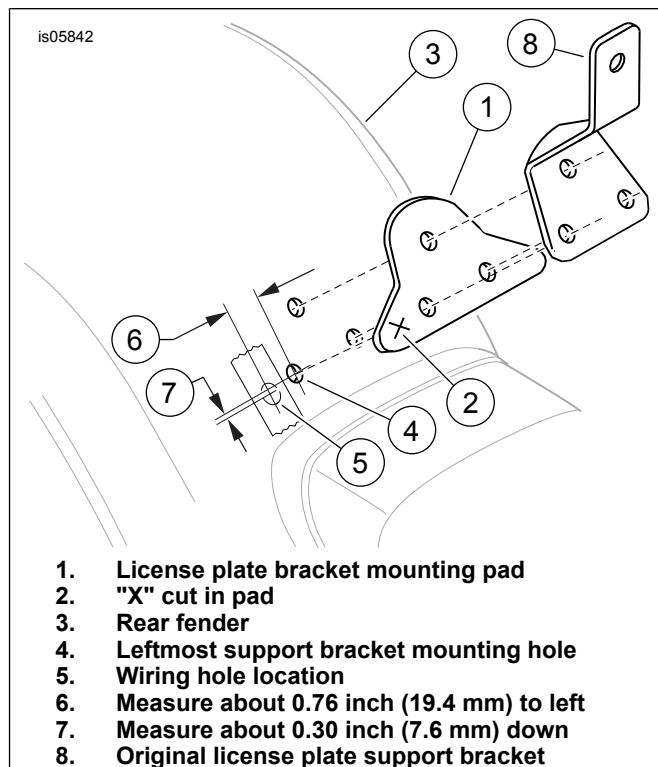
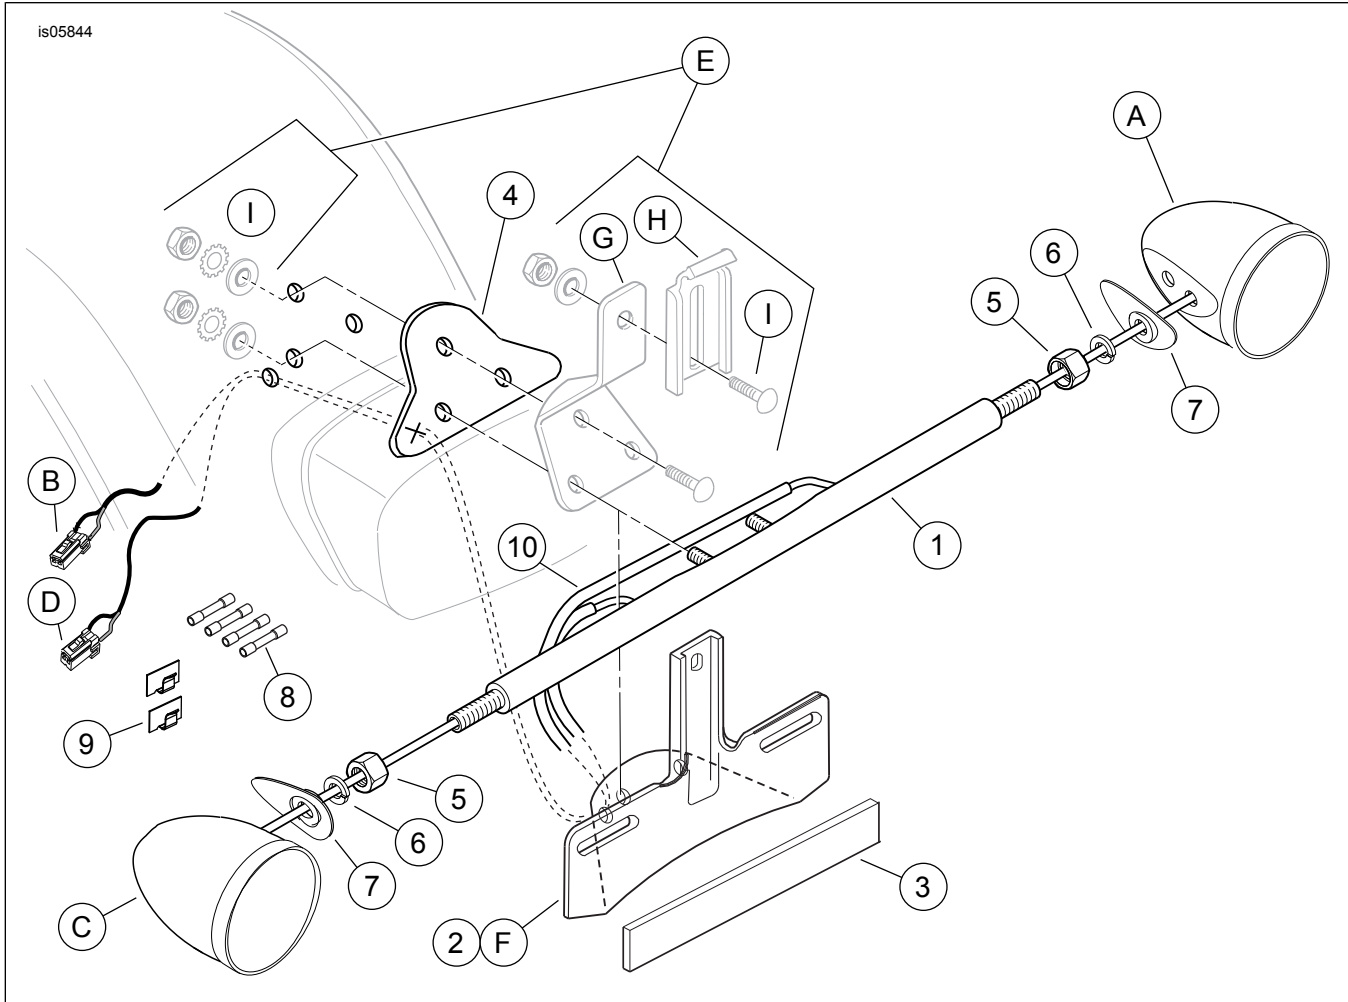

Figure 6. License Plate Support Bracket and Pad
Figure 7. Service Parts, Rear Turn Signal Relocation Kit
2. See Figure 7. Place one of the flat washers from the previous step on a **new** screw (purchased separately). Insert the screw through the attaching hole in the fender and the fender support. Place one of the original lockwashers on the fastener threads, and apply a few drops of Loctite 243 - Blue to the threads. Secure the fender support to the rear fender with a **new** acorn nut (purchased separately). Tighten the fasteners to 16.3–24.4 N·m (12–18 ft-lbs). Repeat for the opposite side.
Remove the license plate bracket assembly from the fender. See Figure 7. Retain the hardware (E) for installation of the new bracket (2) from **this** kit.
1. See Figure 7. Obtain the directional bar (1) and two jam nuts (5) from the kit. Screw a jam nut all the way onto each end of the directional bar with the counterbored side of the nut against the bar.
1. See Figure 6. **For models with THREE license bracket holes in the fender:** **For models with FOUR license bracket holes in the fender:**
- a. Place a piece of masking tape on the rear fender (3) in the area to the left of the three license plate bracket mounting holes above the tail lamp.
- b. Measure from the left lower hole (4), per dimensions (6) and (7), and mark the location for hole (5) on the tape.
- c. Place the new pad (1) from the kit onto the fender, aligning the holes with the three holes in the fender. Make sure the pad will cover a 10 mm (3/8 in) diameter hole in the marked location.
- f. Place the pad (1) onto the fender, aligning the holes with the three holes in the fender.
- h. Place the new pad (1) from the kit onto the fender, aligning the holes with the three holes in the fender.
2. **ALL models:** Remove the pad from the fender, and cut an "X" pattern (2) at the mark as shown.
3. See Figure 7. Obtain the **new** license plate bracket (2) from the kit. Route the wires for both turn signals through the leftmost hole in the license plate bracket, the "X" cut in the pad, and the leftmost hole in the fender.
4. Place the pad (4) onto the fender, aligning the holes and "X" cut with the four holes in the fender. Place the original license plate support bracket (G) onto the pad, and fasten to the fender **through the top hole only** with original fasteners (E) removed earlier.